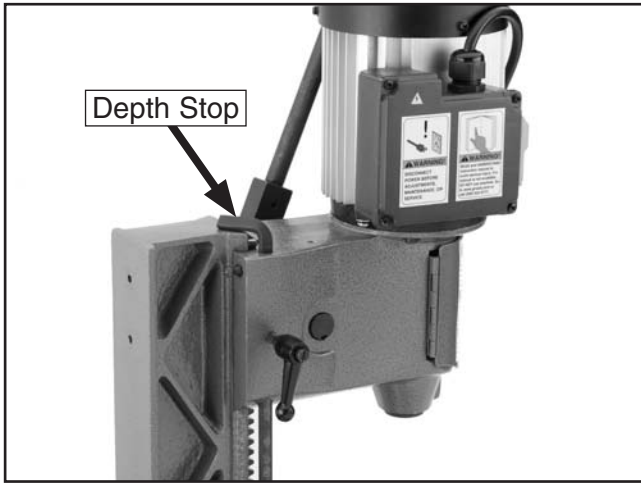

Figure 10. Depth stop contacting headstock.
- Lift the headstock to the top position using the hand lever. Position the depth stop so it contacts the top of the headstock, as shown in **Figure 10**, and secure the lock knob so the headstock does not move.